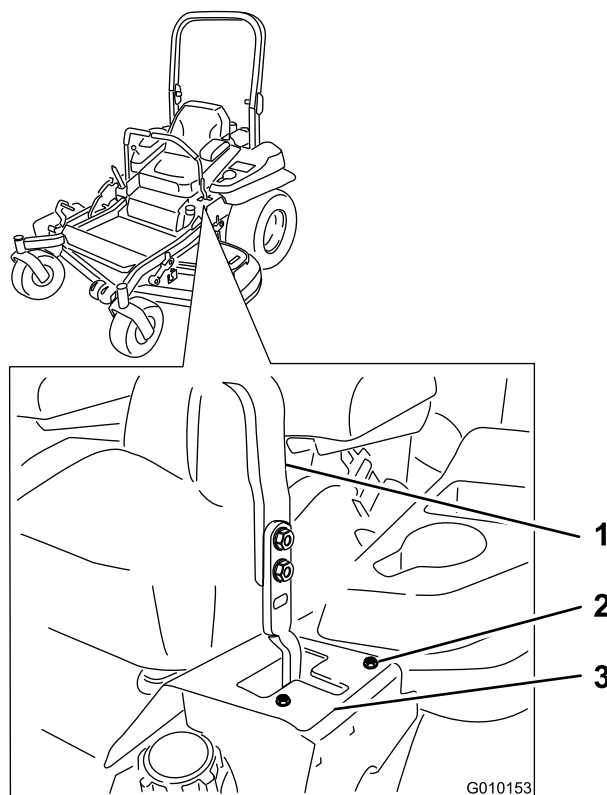

Figure 59
- If the machine tracks to the right, loosen the bolts and adjust the left stop plate rearward on the left T-slot until the machine tracks straight (Figure 59).
- If the machine tracks to the left, loosen the bolts and adjust the right stop plate rearward on the right T-slot until the machine tracks straight (Figure 59).
8. Tighten the stop plate (Figure 59).